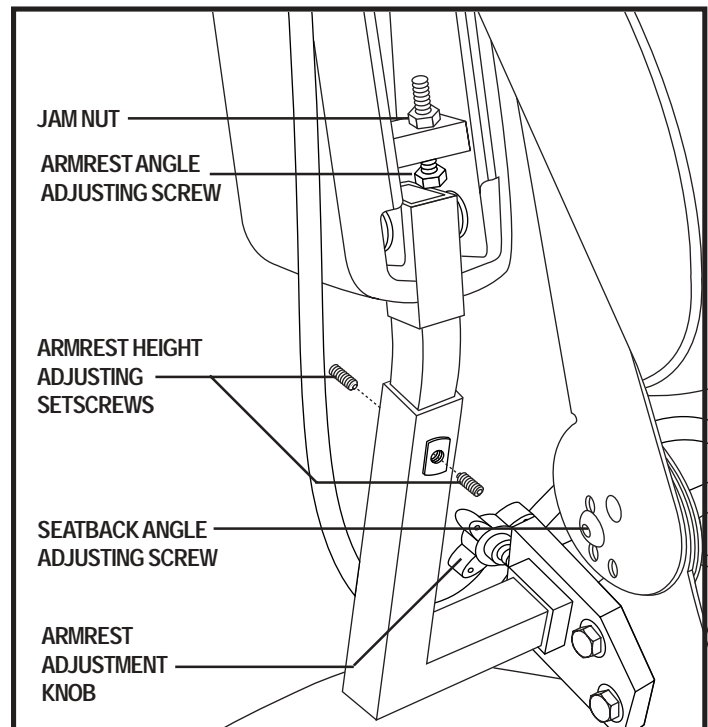

Figure 15. Seatback and Armrest Adjustments
1. Remove the seatback angle adjusting screws from both seat hinges. See figure 15.
See figure 15.
1. Lift the armrest straight up so that it is perpendicular to the floor. See figure 15.
1. Loosen the two setscrews located on the armrest receiver. See figure 15.